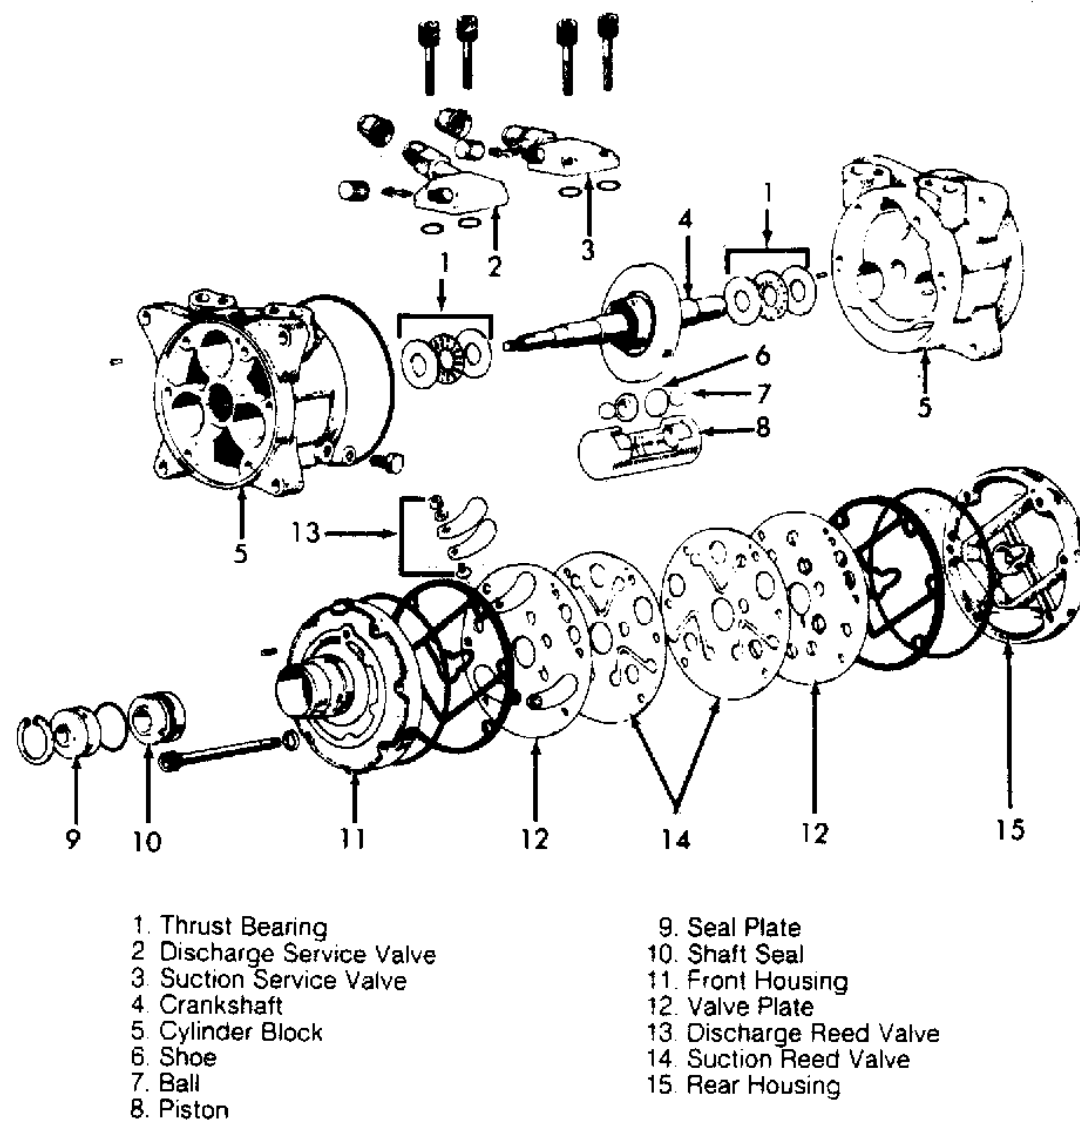

Fig. 14: Nippondenso 6-Cylinder Compressor
5. Remove 6 through bolts from front head of compressor and discard washers. Tap head loose from compressor; be careful not to scratch sealing surfaces. remove snap ring (if equipped) from front housing. Press seal plate out. Remove seal from shaft. See Fig. 14 .